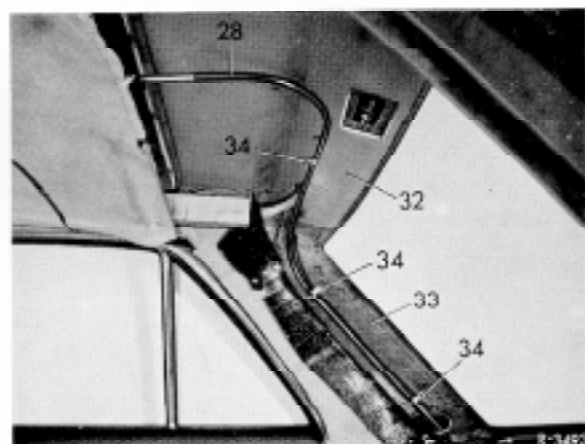

Fig. 3 (shown on Model 114/115)
10 Unscrew pipe clips (34) on rear pillar and on roof frame (Fig. 3).